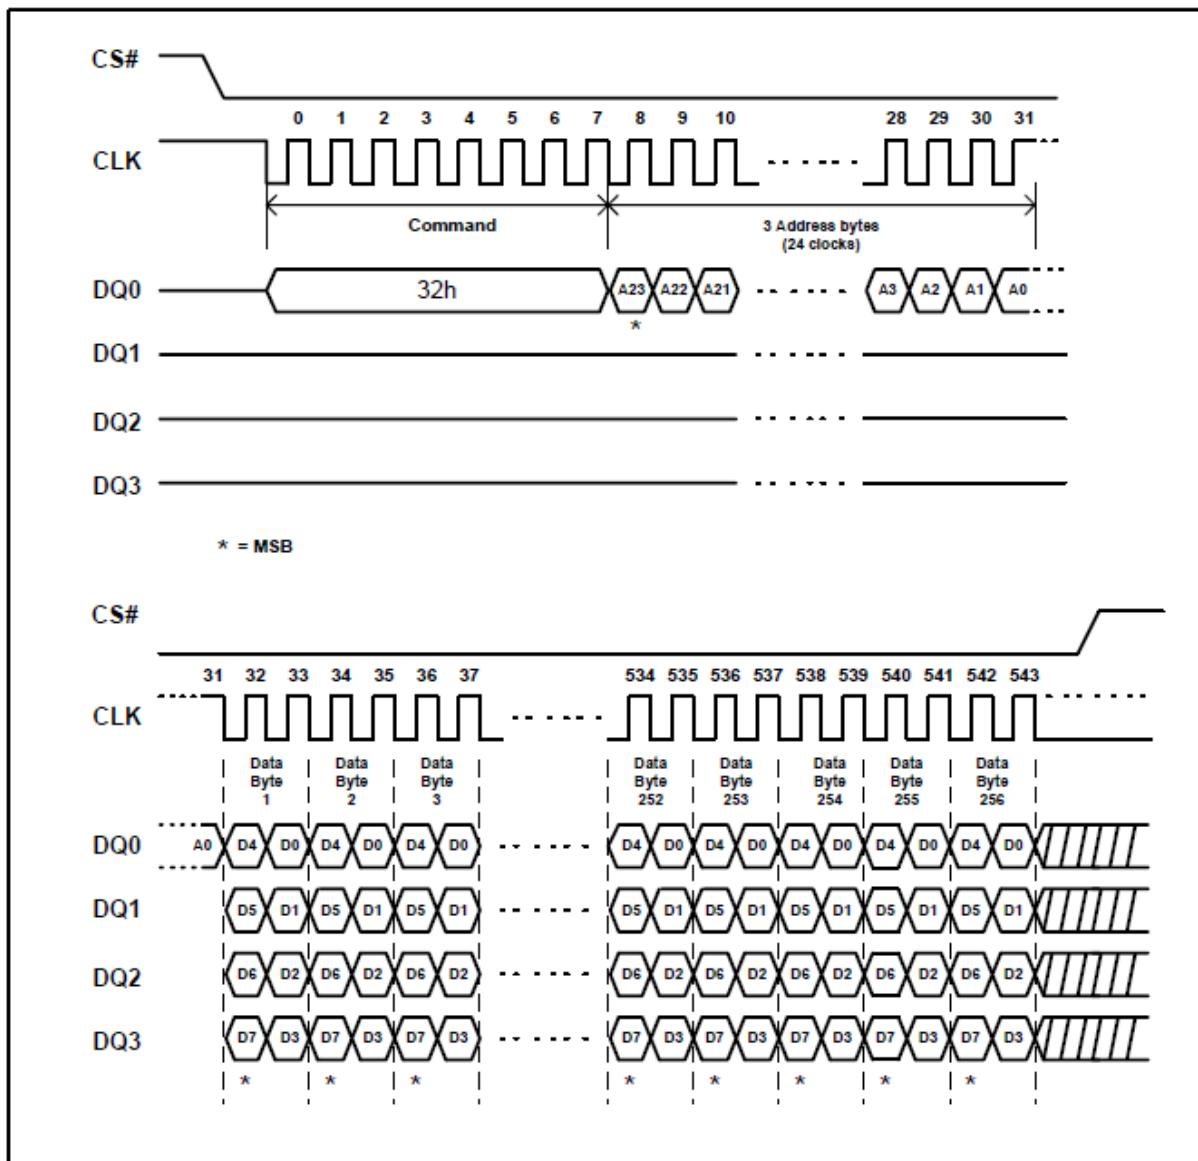

Figure 30. Quad Input Page Program Instruction Sequence Diagram (SPI Mode only)
To use Quad Page Program (QPP) the WP# and HOLD# Disable (QE) bit in Status Register must be set to 1. A Write Enable instruction must be executed before the device will accept the Quad Page Program (QPP) instruction (SR.1, WEL=1). The instruction is initiated by driving the CS# pin low then shifting the instruction code “32h” followed by a 24-bit address (A23-A0) and at least one data byte, into the IO pins. The CS# pin must be held low for the entire length of the instruction while data is being sent to the device. All other functions of Quad Page Program (QPP) are identical to standard Page Program. The Quad Page Program (QPP) instruction sequence is shown in Figure 30.